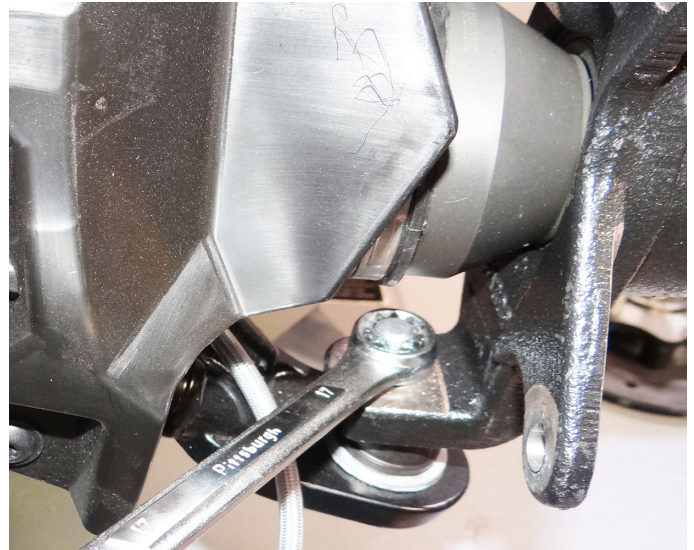

Fig. 10 Remove Spindle Hardware
6. Remove the cotter pin (31) and castle nut (30) that secure the spindle to the lower control arm (Ref. Fig. 10). Tap the spindle assembly downward with a hammer to separate it from the ball joint.